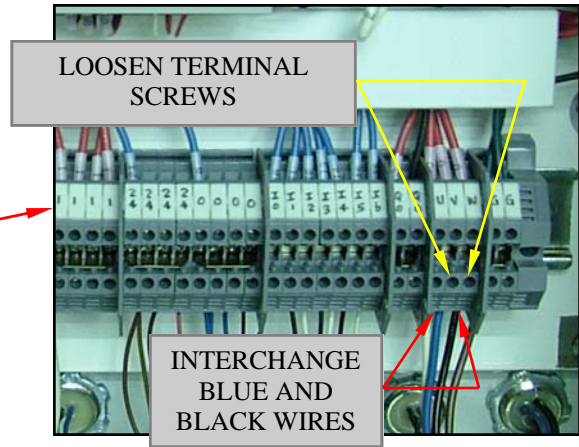

Figure 20
23. Loosen lower terminal screws that secure blue and black wires to terminals “V” and “W”. (See Figure 20)
- Black to terminal “V”Retighten the terminal screws. (See Figure 20)